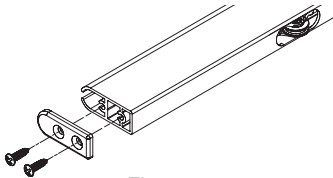

Figure 6
- 9) Remove one of the endcaps from the fabric hem-bar (see Fig. 6).